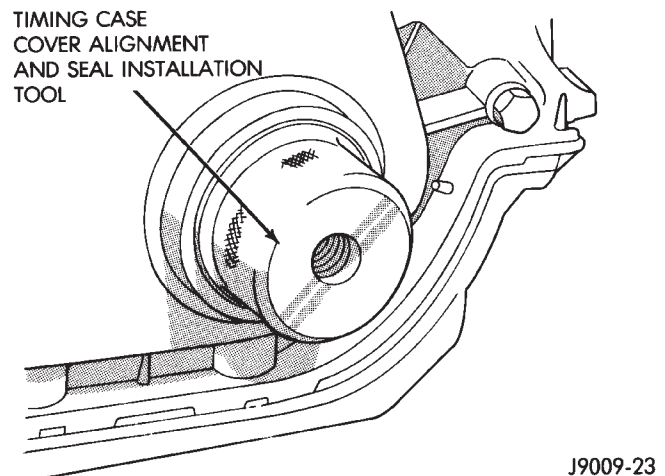

Fig. 44 Timing Case Cover Alignment and Seal Installation Tool 6139
- (1) Clean the timing case cover, oil pan and cylinder block gasket surfaces.
- (2) Install a new crankshaft oil seal in the timing case cover. The open end of the seal should be toward the inside of the cover. Support the cover at the seal area while installing the seal. Force it into position with Seal Installation Tool 6139.
- (3) Position the gasket on the cylinder block.
- (4) Position the timing case cover on the oil pan gasket and the cylinder block.
- (5) Insert Timing Case Cover Alignment and Seal Installation Tool 6139 in the crankshaft opening in the cover (Fig. 44).